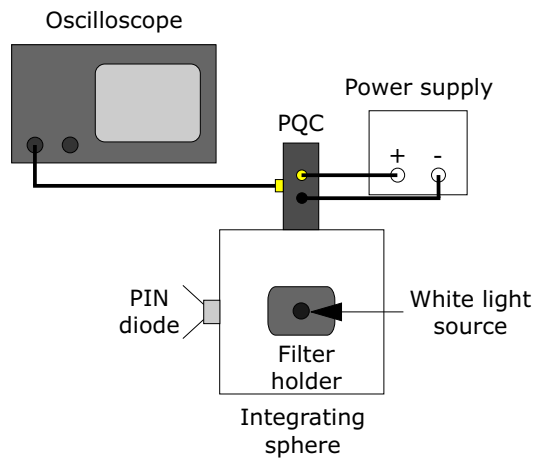

Figure 5: Experimental setup for passive quench/reset photon counting.
- Set up the equipment as shown in Fig. 5. Note that the PIN diode is used as a port plug to keep the equipment in the dark.